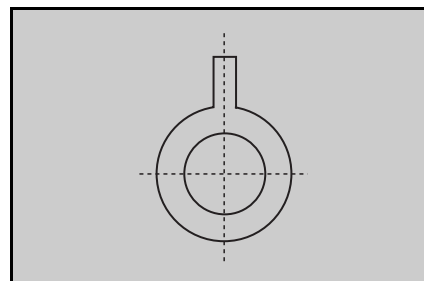

Figure 32. **Alignment magnet (or dummy ring)**
- Position the long tab of all alignment magnets and of the dummy ring together in an uncorrected position. (See figure 32).